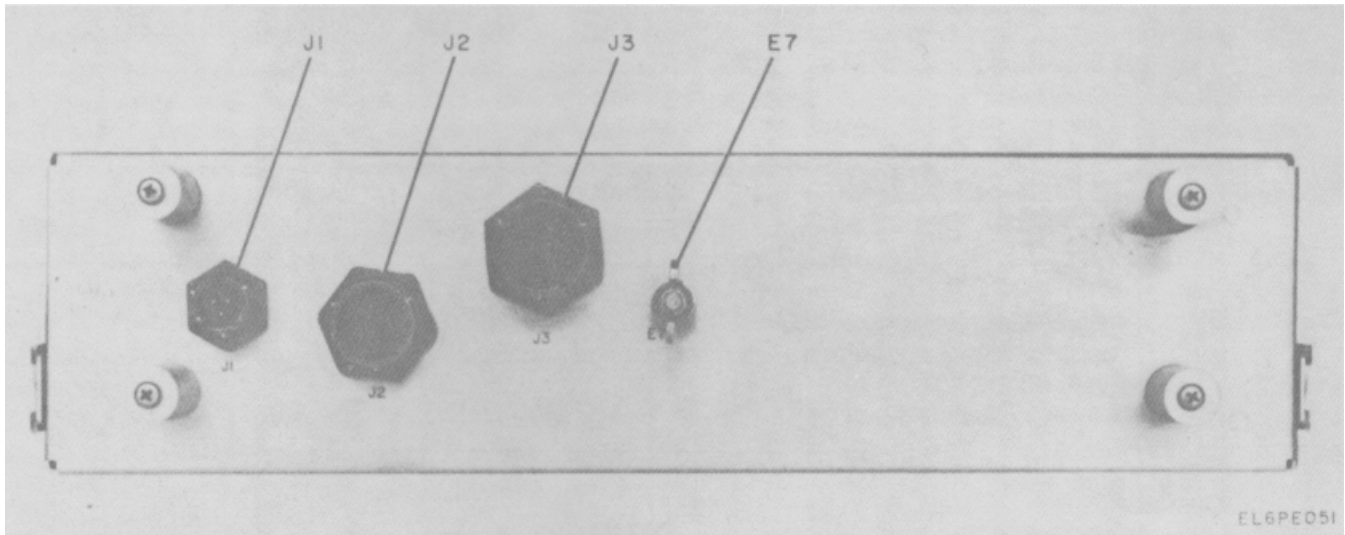

Figure 5-25. Alarm Monitor, Rear Panel.
- d. On the rear panel, disconnect all cables from the chassis connectors J1, J2, and J3 and ground wire from terminal E7 (fig. 5-25).